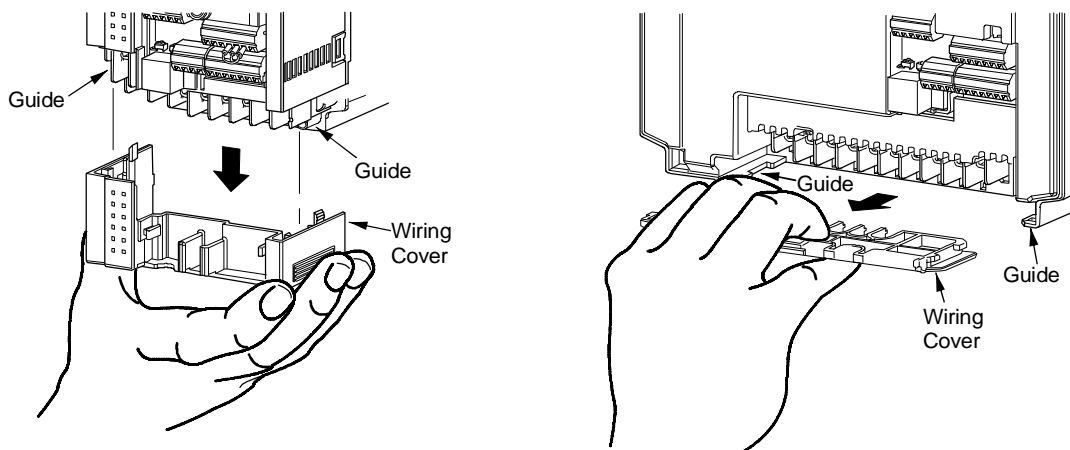

Figure 5: Remove the High-Voltage Wiring Cover
2. Remove the high-voltage wiring cover at the bottom of the VFD68 Drive (Figure 5).